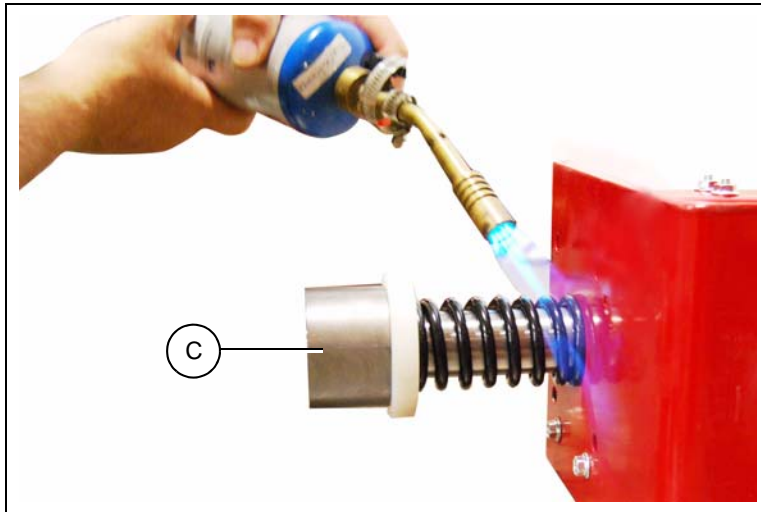

Figure 6F
2. The hammer FLX-5163 must be disassembled from the cam follower (FLX-5189). (See Figure 6F.)